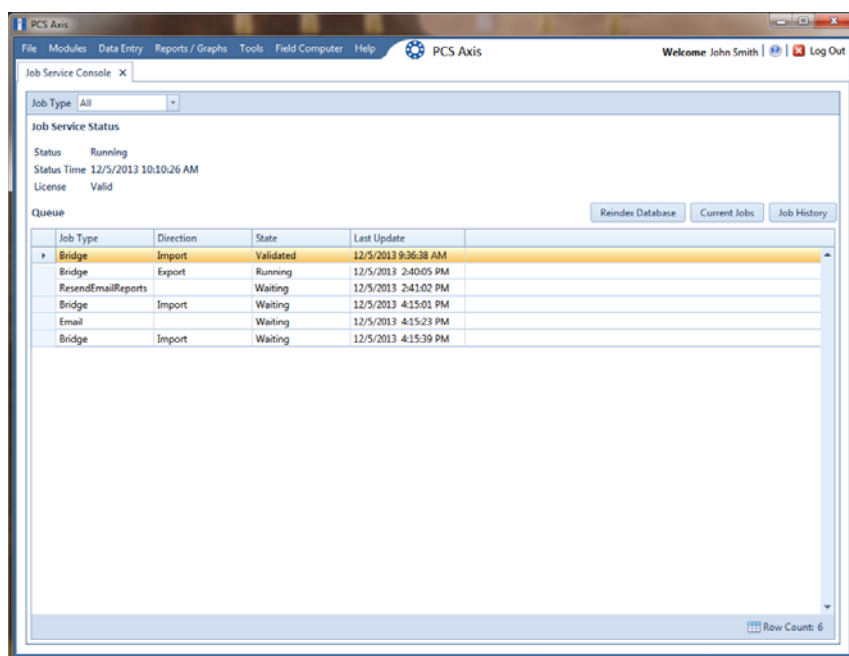

Figure 11-1. Current Jobs
The type of job displays in the *Job Type* column. All Bridge and Field Computer Receive jobs display as a *Bridge* job type. The *EmailReports* job type displays for Email Notification jobs. The *ResendEmailReports* job type displays when you resend an Email Notification (Figure 11-1).
- 1 Click **Tools** > **Job Service Viewer** to open the *Job Service Console* (Figure 11-1, page 486).